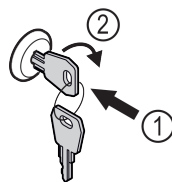

Fig. 106 Example illustration
- ▶ Insert key Fig. 106 (1).
- ▶ Turn key clockwise by 90° Fig. 106 (2).